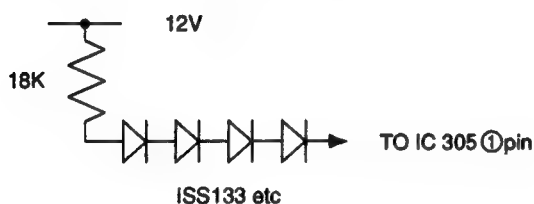

Fig. 5-16
- 2) Connect a frequency counter to IC305 ② PIN.
- 4) Connect IC305 ① PIN as shown in Fig. 5-16.